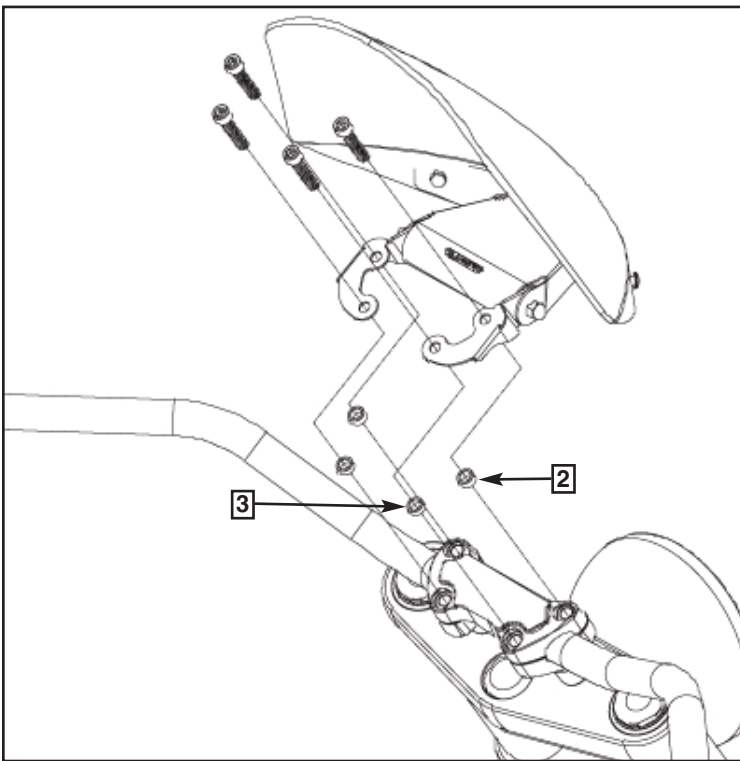

Figure 1
2. Refer to Figure 1 and place appropriate length bushing in each hole. **Figure 1 and Parts List**
3. Install the Gladiator Clamp with stock bolts. **(1/4" Allen Wrench) Figure 1**